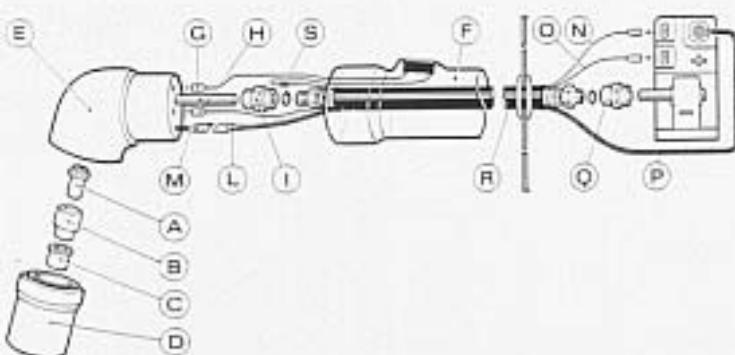

Fig. 3
1) Substitution of consumable parts (fig. 3).
2) Substitution of torch body **E** (fig. 3).
3) Substitution of complete torch (fig. 3).
4) Substitution of cable **R** (fig. 3).